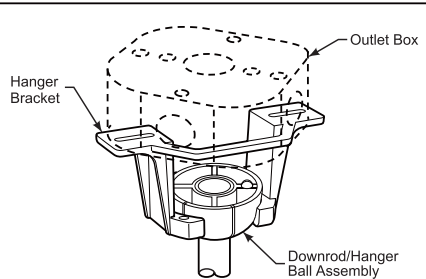

Figure 4
4. Loosen the two set screws and locking nuts in the downrod support of the motor assembly. Route the black, white and blue wires through the downrod. (Figure 4)
2. Carefully lift the fan and seat the downrod/hanger ball assembly onto the hanger bracket that was just attached to the outlet box. Be sure the groove in the ball is lined up with tab on the hanger bracket. (Figure 4) This fan is intended for standard and angled mounting options only. Closemount and flushmount options are not available. For angled ceilings, note the angle can be no more than 19°.
4. Securely attach 9-pin connector from motor assembly to wiring harness socket within switch housing assembly. (Figure 4)
4. Slide the switch to "CH" when use the pull chain to operate the fan. Slide the switch to "RC" to operate the fan using the optional CR500 remote control—sold separately. (Figure 4)